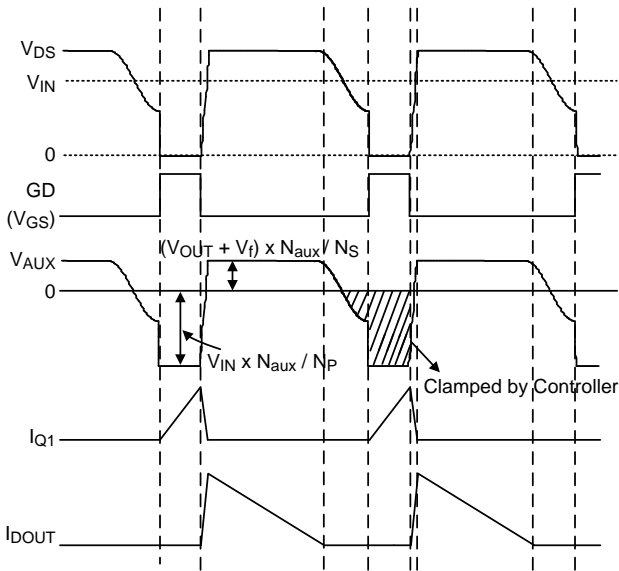

Figure 3. Key Waveforms of a Flyback Converter
RT7304A needs no shunt regulator and opto-coupler at the secondary side to achieve the output current regulation. Figure 3 shows several key waveforms of a conventional flyback converter in Quasi-Resonant (QR) mode, in which  $V_{AUX}$  is the voltage on the auxiliary winding of the transformer.